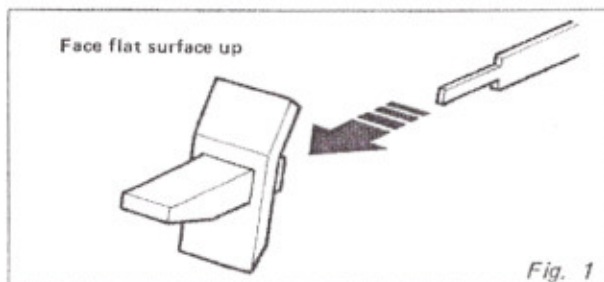

Fig. 1
- b. Pull off lever. (refer Figure 1)